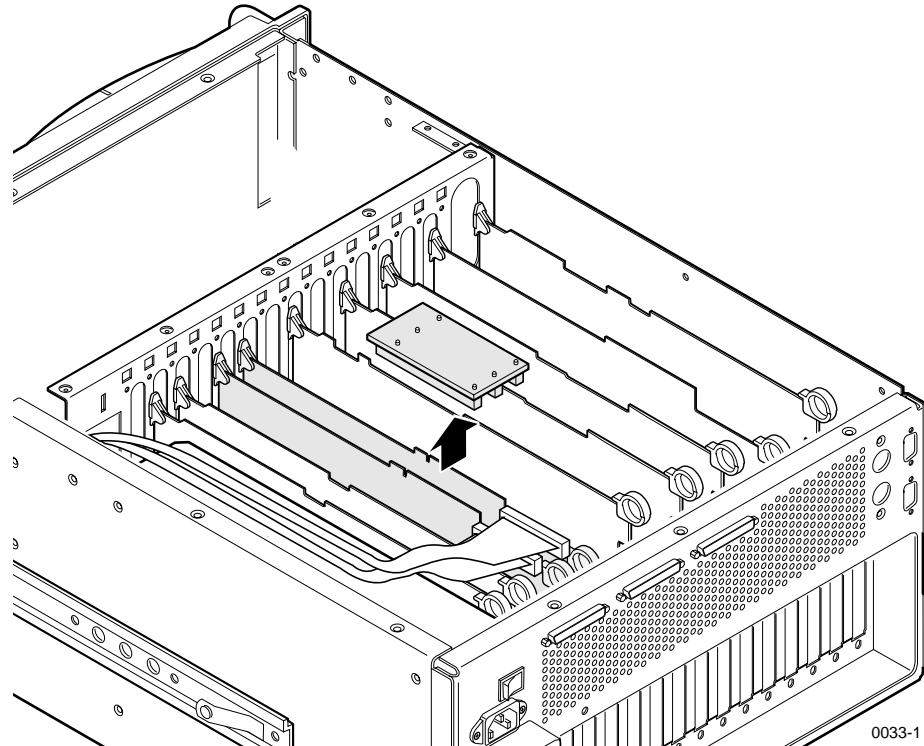

Figure 6. PCI Board Removal
4. Remove the PCI board (Figure 6) by pulling straight up and off the boards to which the PCI is connected.
6. Noting the connector keying, reinstall the PCI board so that the MASTER connector on the PCI board is connected to the Master Enhanced Disk Recorder board (Figure 6).